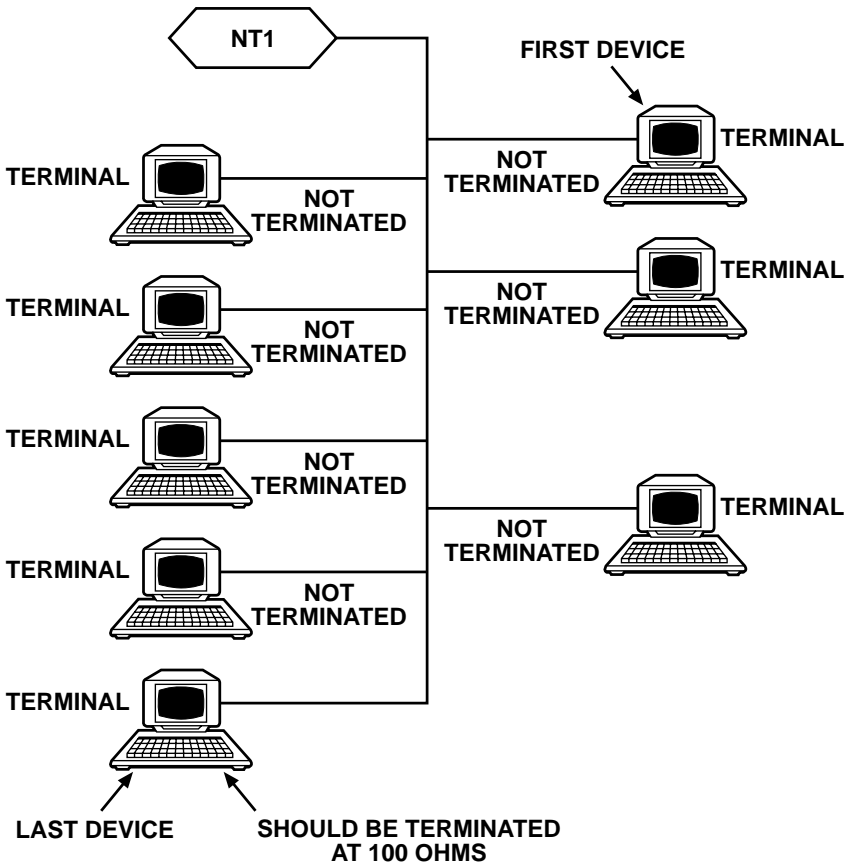

Figure 4-8. Proper device terminations diagram.
1. Determine which devices are the first and last devices on the bus. The first device is the one closest to the NT1. The last device is the one furthest from the NT1. *See Figure 4-8* for an example of proper device termination.